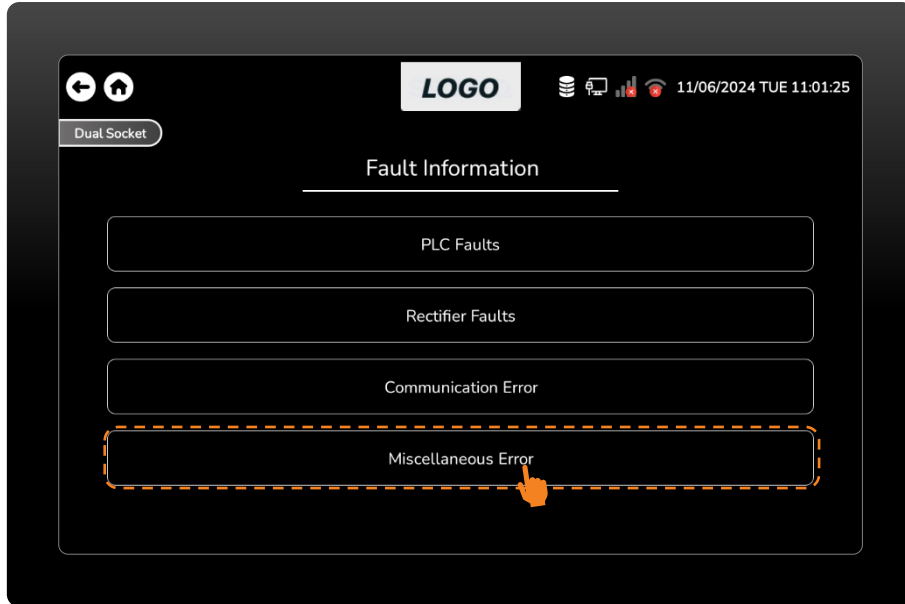

Figure 78 Press the Miscellaneous Error Button.
- To get information about the device connection status, press the miscellaneous error button. (Figure 78)